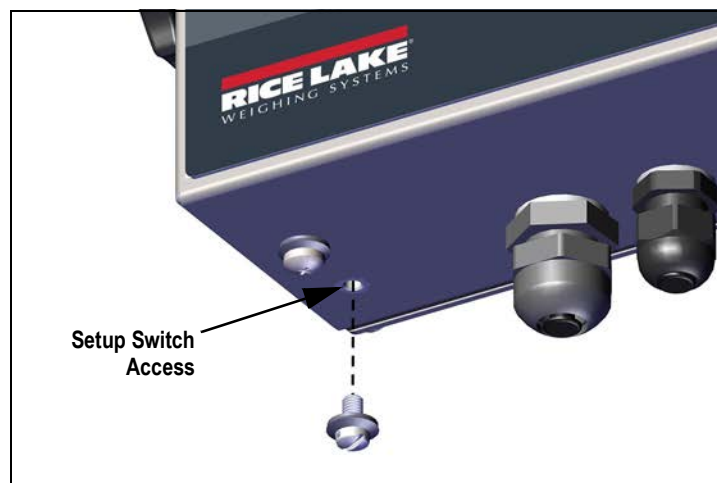

Figure 4-1. Setup Switch Access
1. Access setup mode by pressing the setup switch (Figure 4-1 on page 22). $\overline{C}ONF\overline{I}G$ displays.